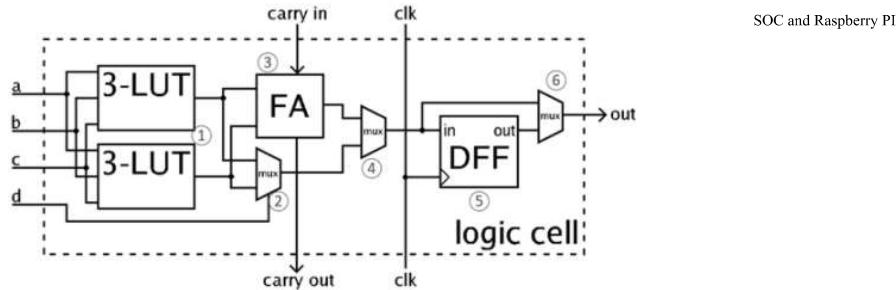

Figure 1.6: A simplified CLB: The four-input LUT is formed from two three-input units
A CLB is made up of numerous logic blocks (see Figure 1.6). An FPGA's lookup table (LUT) is a distinguishing feature. LUTs with four to six input bits are commonly utilised, and they hold a predefined list of logic outputs for any combination of inputs. Multiplexers (mux), full adders (FAs), and flip-flops are all commonly used logic functions.
The number and location of components in the CLB vary depending on the device; in the simplified example in Figure 1.6, during FPGA programming, two three-input LUTs (1), an FA (3), and a D-type flip-flop (5), as well as a standard mux (2) and two muxes, (4) and (6), are configured.